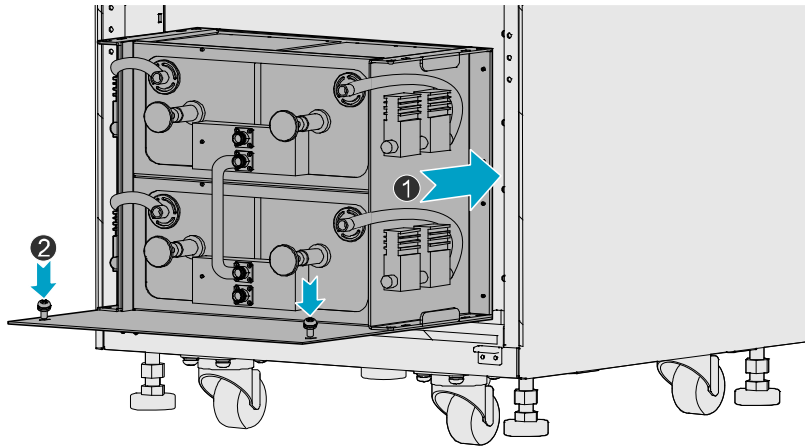

Figure 3-14 Installing the Combiner Unit
**Step 6** Install the COM as shown in Figure 3-14.